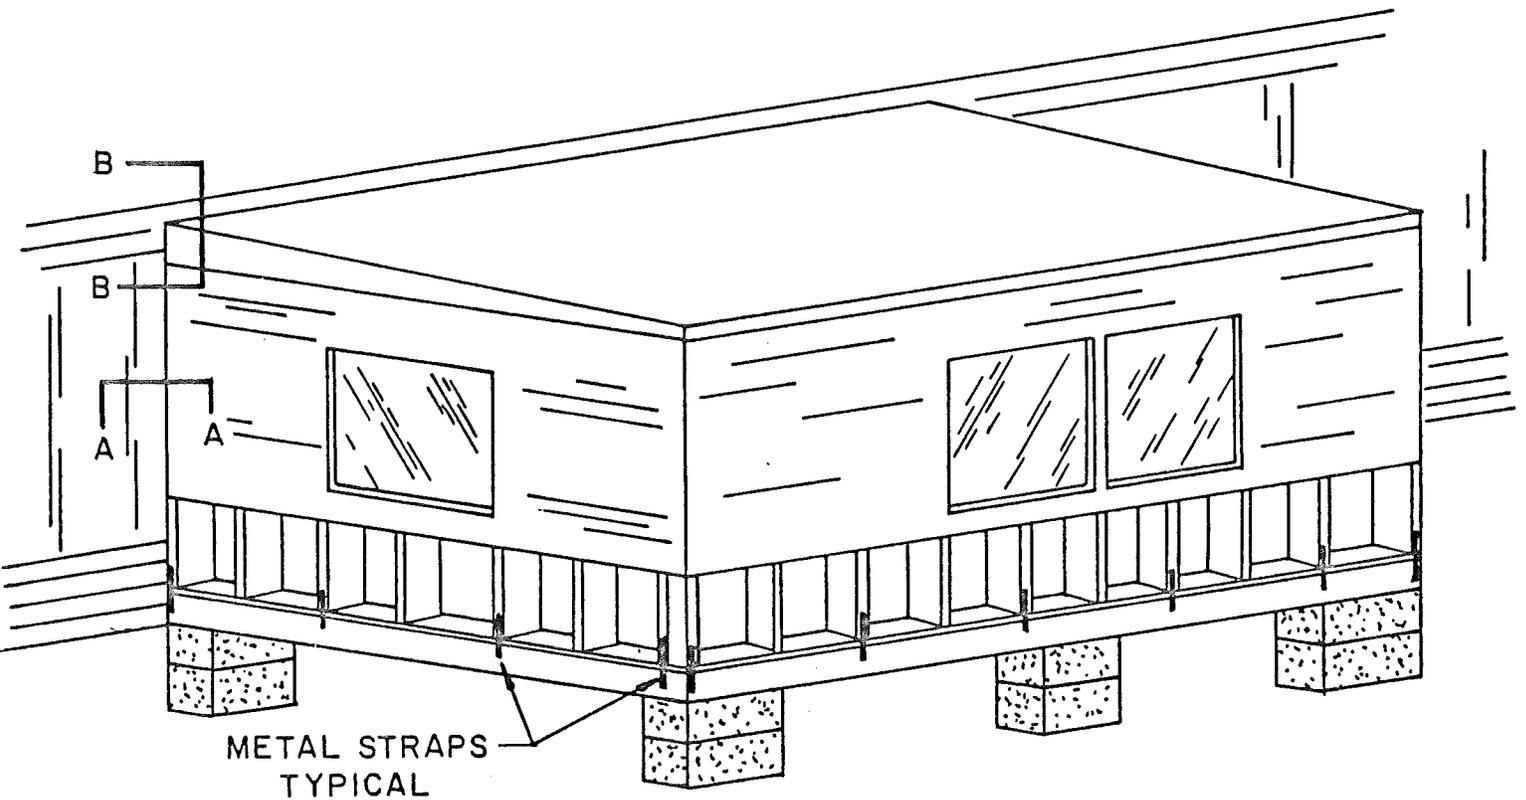

FIG. 2
7. Square the room with the edges of the floor and nail wall bottom plate to the floor with two 16d nails, 16 inches on center. Attach metal straps to wall studs and floor joists with three 6d nails to stud and joist. The metal straps are to be located at every other stud (32" on center maximum) (see fig. 2).
11. Install the bottom closure metal and corner flashing. NOTE: It is vital that the flashing and caulking be applied properly to avoid leak problems (see fig's 5 & 6) (ref. fig. 2).